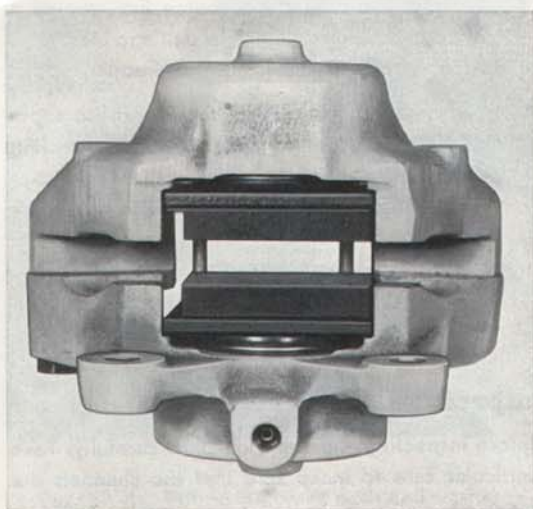

Fig. 5—11. Rear brake caliper assembled
2. Connect up the brake line, see Fig. 5—7.